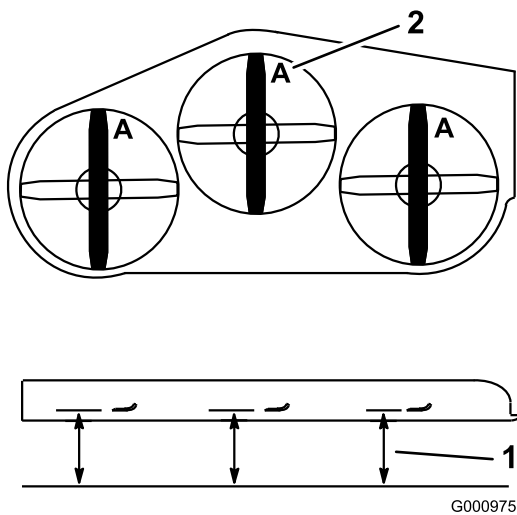

Figure 96
3. With the machine on a level surface, position one blade front-to-rear. Measure at **A** and from a level surface to the cutting edge of the blade tips (Figure 96).